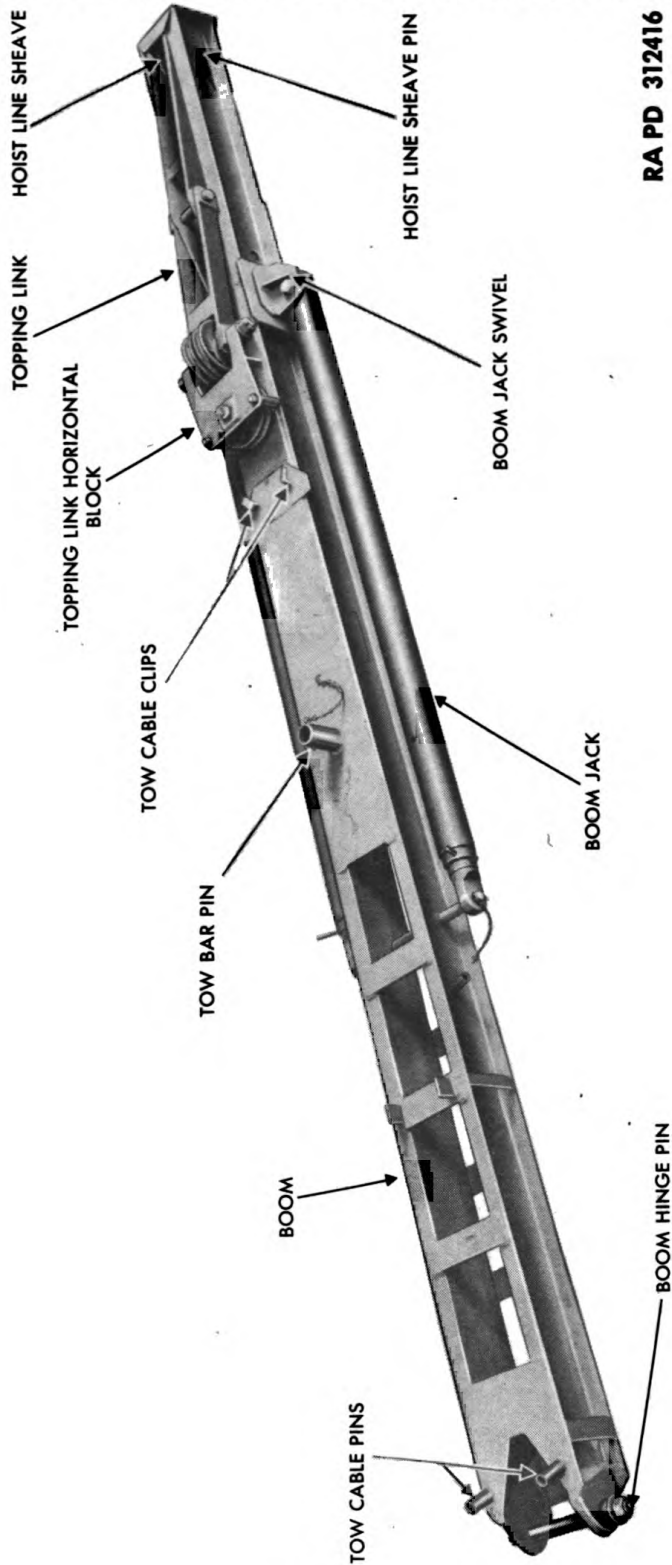

Figure 21 – Boom Assembly
a. **Remove Hoist Line Sheave.** Remove sheave pin spring-loaded lock pin and slide sheave pin to the right out of boom side members and sheaves (fig. 21).
a. General. Inspect the boom for broken welds, stretched or worn sheave pin eyes, missing brackets and stretched or worn anchor pin holes. Inspect boom jack swivel mounting plate for excessive wear and alignment (fig. 21).